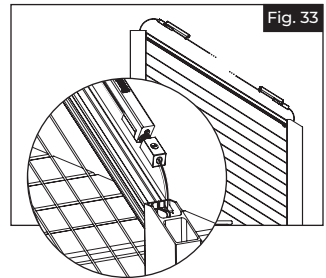

Fig. 33
- a. Feed cable through tension spring B and tensioner. Place tension spring B and tensioner into top beam at lower post (Fig. 33).